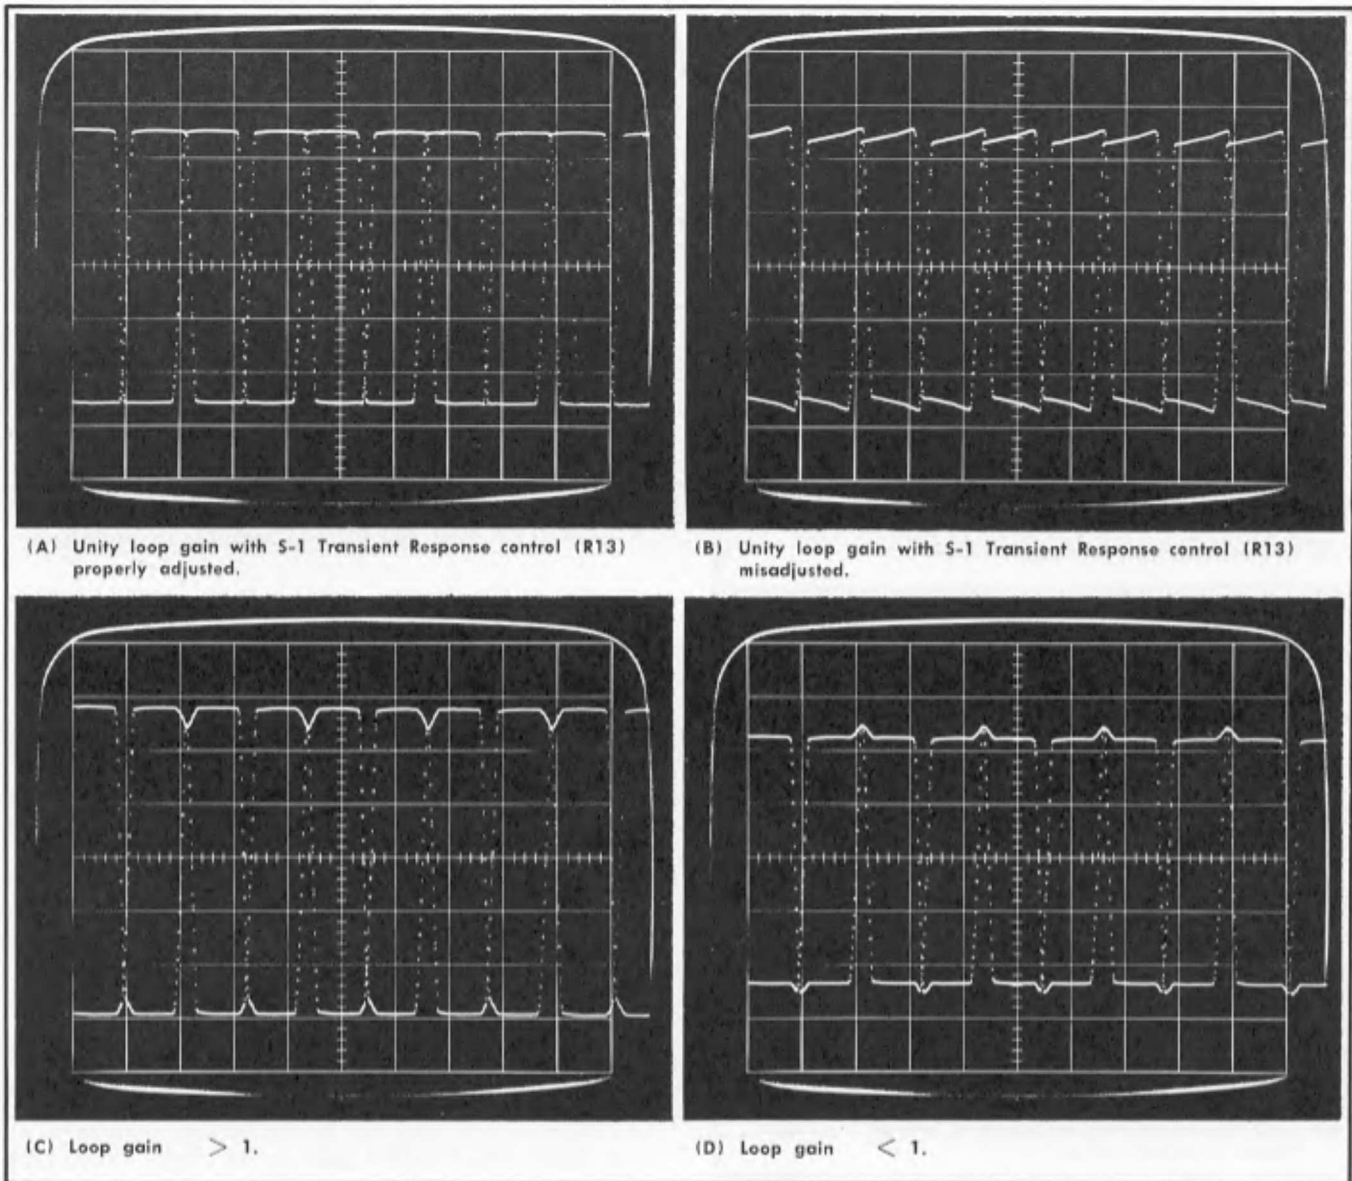

Fig. 7-5. Type 356/S1 waveforms, 1 μ s period square wave, sampling sweep double triggered at 500 ns/div.
b. Set the sampling sweep unit for 500 ns/div (0.5 μ s/div). Obtain a double-triggered display on the indicator oscilloscope by free running the time base and adjusting the Recovery Time control. The display should be similar to any one in Fig. 7-5.
e. Adjust the sampling sweep unit Trigger Sensitivity and Recovery Time controls for a double-triggered indicator oscilloscope display similar to any in Fig. 7-5. The test oscilloscope display should be similar to the waveform in Fig. 7-8A when the sampling head is Type S-1, to Fig. 7-8B or C if the sampling head is Type S-2, and similar to Fig. 7-8D if the sampling head is a Type S-3. (It is recommended that a Type S-3 be used if available.)